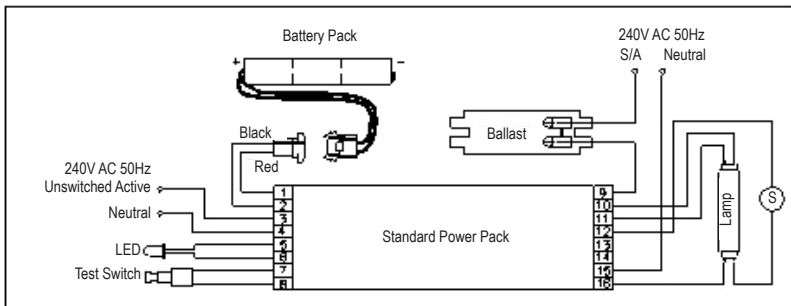

Figure 3: Wiring Diagram Standard Power Pack using conventional magnetic ballast
4. Figure 3 shows wiring connections using Power Pack and conventional magnetic ballast.
The **switched active** wire connects to the ballast as shown in the figure 3.